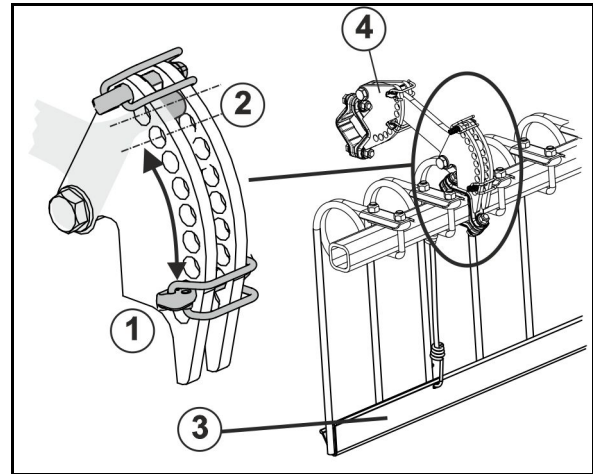

Fig. 36
- The implement has a setting option for the disc offset on each section (Fig. 36)